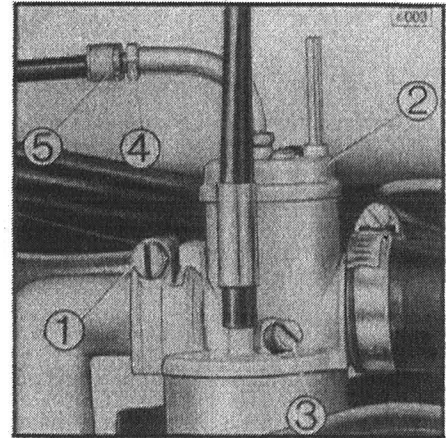

Fig. 7
- 4) Loosen carburetor clamping screw (figure 7/1).
- 7) Undo screws and pull out the top parts with throttle piston and choke (figure 7/2).
- 3) If the engine threatens to stall, screw in the adjuster (figure 7/3) until the engine, in warm condition, regains its even tickover.
- 1) Loosen counter nut of the cable adjuster (figure 7/4).
- 2) Screw counter nut of the cable adjuster (figure 7/5) until there is a play on both the throttle cable and the throttle twist grip. The cover of the throttle cable can be pulled out from the cable adjuster by appr. .08 in. (2 mm), before the throttle slide is lifted, i. e. before the engine starts running faster.